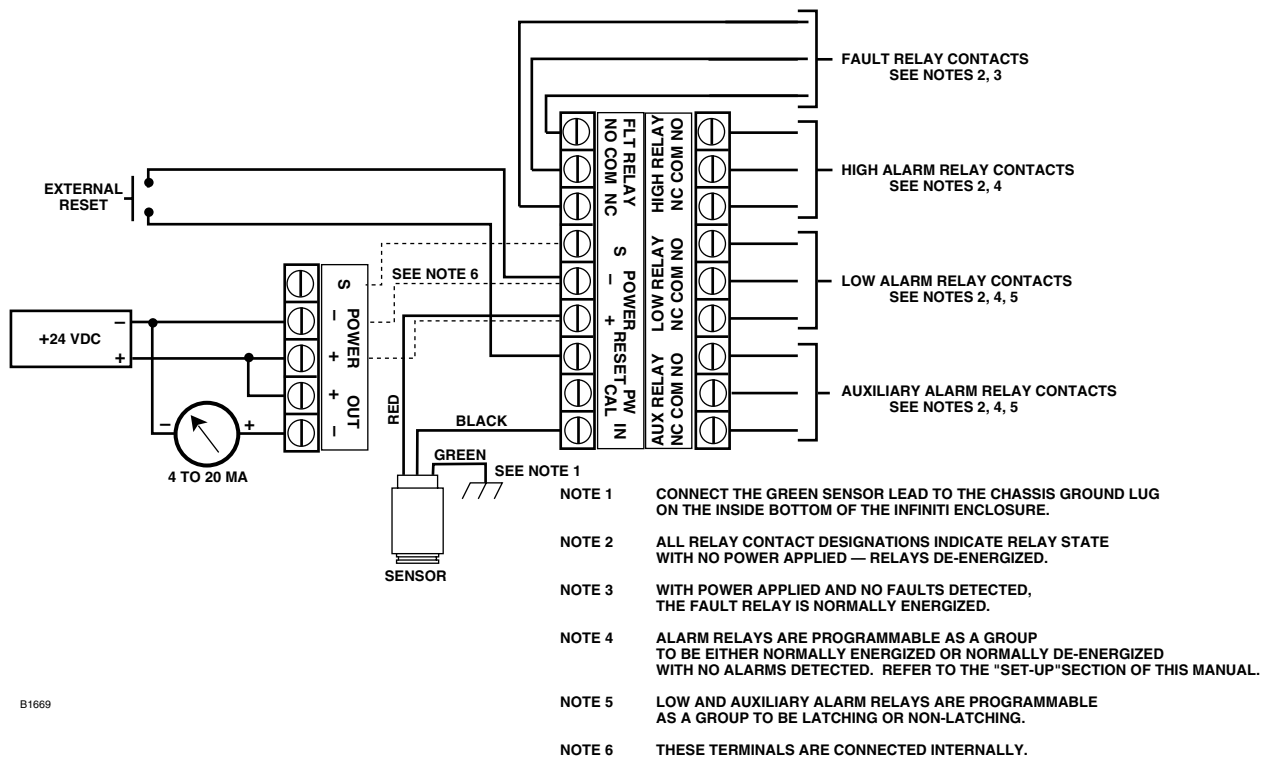

Figure 8—A Typical System - Infiniti Transmitter with a Toxic Gas / Oxygen Sensor, Non-Isolated Current Output and Relay Outputs
- Figure 8 — A Typical System, Infiniti Transmitter with a Toxic Gas/Oxygen Sensor, Non-Isolated Current Output and Relay Outputs